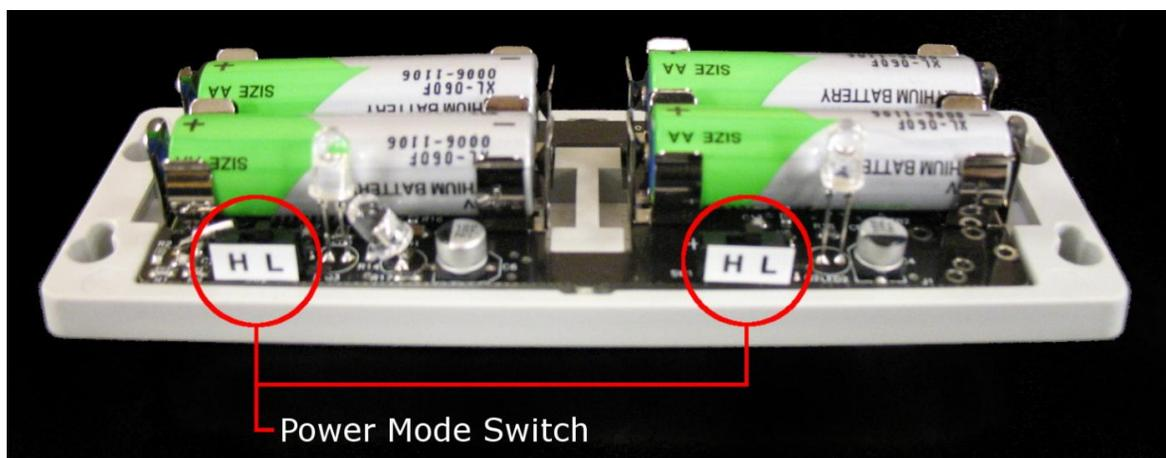

Figure 4: Power Mode Switch
- Ensure that the batteries are oriented in the correct direction. (*Refer to Figure 4*)